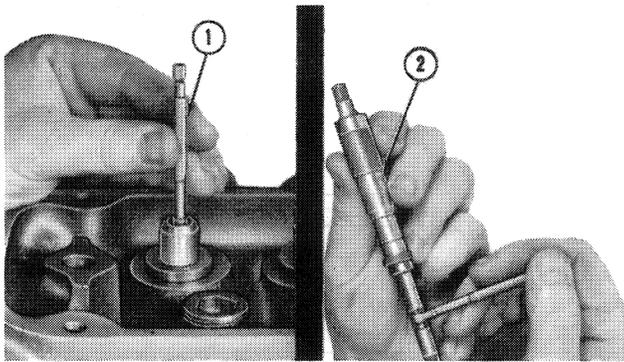

Figure 16
1. Using a telescopic gauge and micrometer, measure the valve to guide clearance, Figure 16. If the clearance exceeds the specified limits, see "Specifications" — Chapter 3, ream the valve guide to fit the next oversize valve.